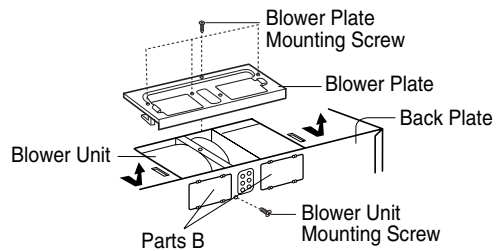

Figure 20
1. Remove one blower unit mounting screw and one or several blower plate mounting screw(s). Remove the blower plate from cabinet. See Figure 20.